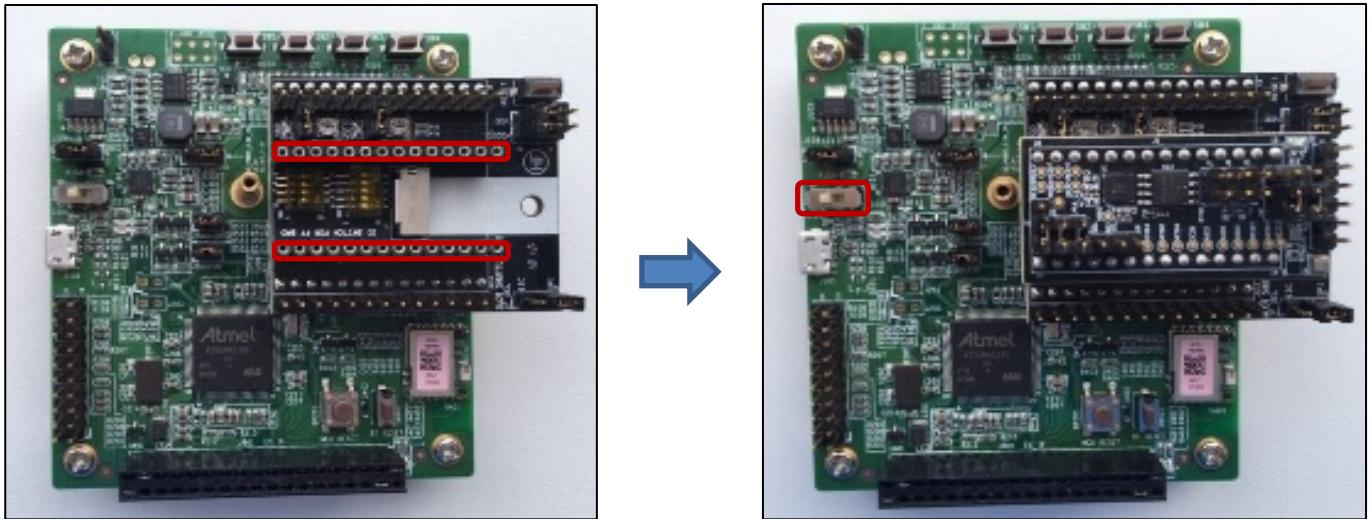

Figure 3: Mounting the BHy2 shuttle board
4. Turn on the device by setting the power switch (see Figure 3: Mounting the BHy2 shuttle board) on the Application Board to the “on” position.